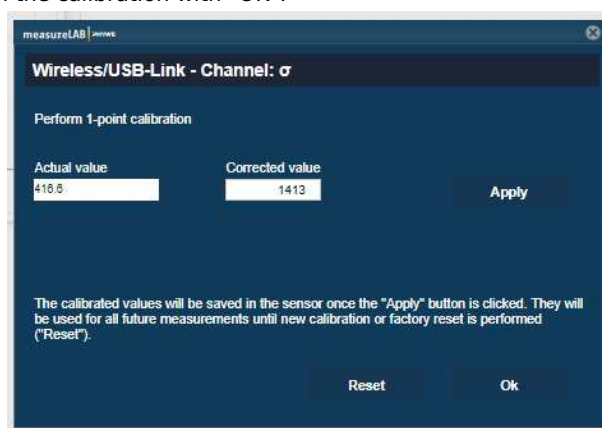

Fig. 2: Settings for the calibration mode of the sensor.
- Enter the corrected value for the conductivity at a given temperature (cf. Fig. 2). You can find this value on the label of the standard solution (at 25 °C with $C = 1413 \mu\text{S}/\text{cm}$) Click the "Apply corrected value" button and repeat this step for the second point of calibration. Finish the calibration with "OK".